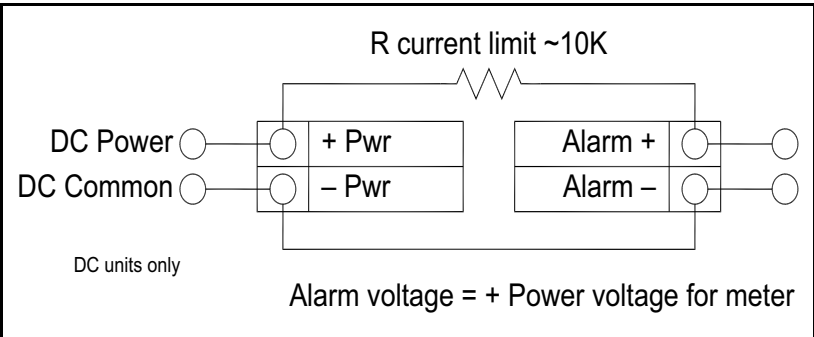

Figure 42: Non-Isolated Alarm Output Using Internal Power Supply
- For DC powered meters only, use the flow meter power supply (see *Figure 42 on page 45*). Use this option if the voltage at the flow meter power supply is an acceptable driver voltage for the connected load, taking into account that the current used by the alarm load comes from the meter’s power supply.